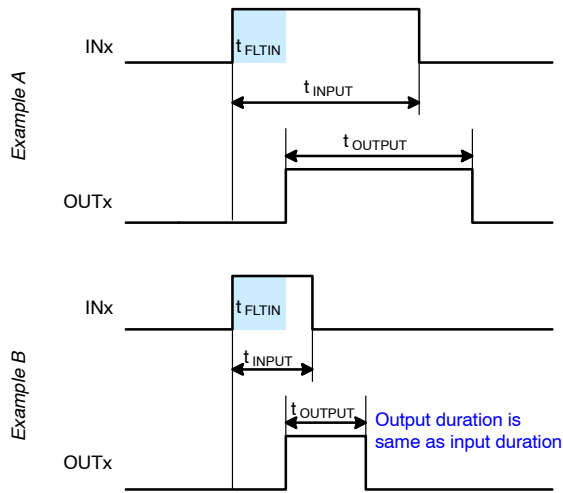

**Figure 43.  $R_{CIN}$  and Fault-Clear Waveform Definition**
Figure 43 shows the waveform definitions of RCIN,  $\overline{FO}$ , and the low-side driver; which uses a soft turn-off method when an under-voltage condition of the low-side gate driver supply voltage ( $V_{DD}$ ) or the current-sense pin (CS) recognizes a fault. If a fault condition occurs, the  $\overline{FO}$  Pin is internally pulled to COM and all outputs (HO1, 2, 3 and LO1, 2, 3) of the gate driver are turned off. Low-side outputs decline linearly by the internal sink current source ( $I_{SOFT} = 40 \text{ mA}$ ) for soft turn-off, as shown in Figure 43.